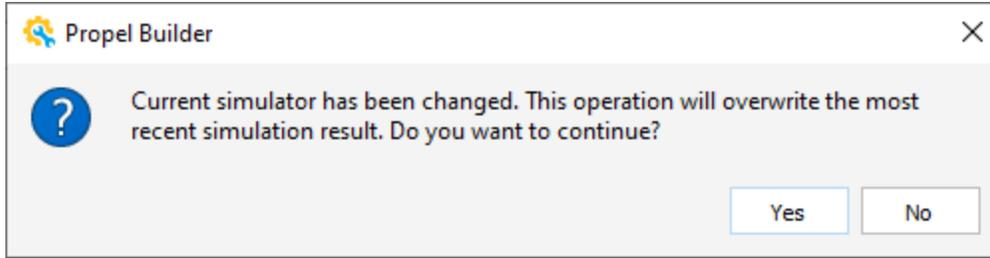

Figure 2.155. Remind for Simulation Tool Change
- If there is a simulation tool change, make sure to generate simulation environment again. Otherwise, a dialog box pops up prompting you to make a choice of Yes or No (Figure 2.155).